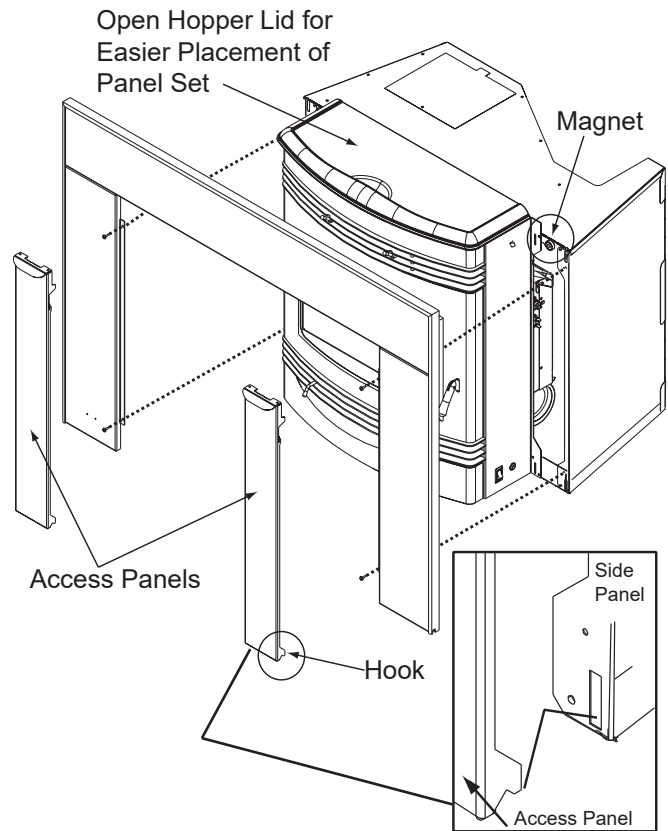

Figure 22.3
3. Open the hopper lid by pulling toward you. This will make it easier to set the panels in place. Secure the panels to the insert, 2 screws per leg, as shown in **Figure 22.3**.
6. Install the access panels. At the bottom of the access panel there are 2 hooks that slip into a slot at the bottom of the side panel and a magnet at the top that holds the access panel in place (**Figure 22.3**).